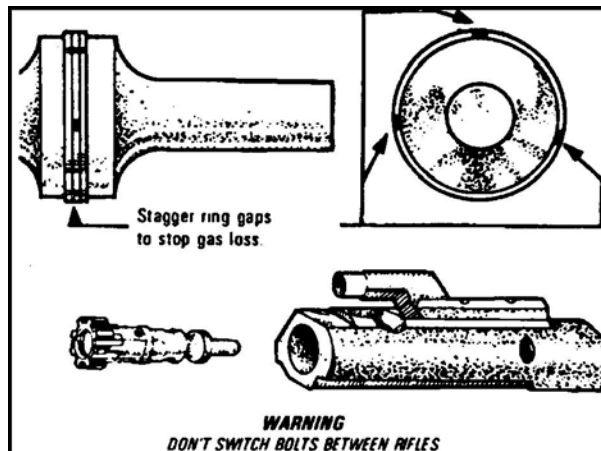

Figure 27. Placing the bolt in the carrier.
- d. Slide the bolt into the carrier until the bolt cam pin hole in both the bolt carrier and the bolt are aligned (Figure 27).